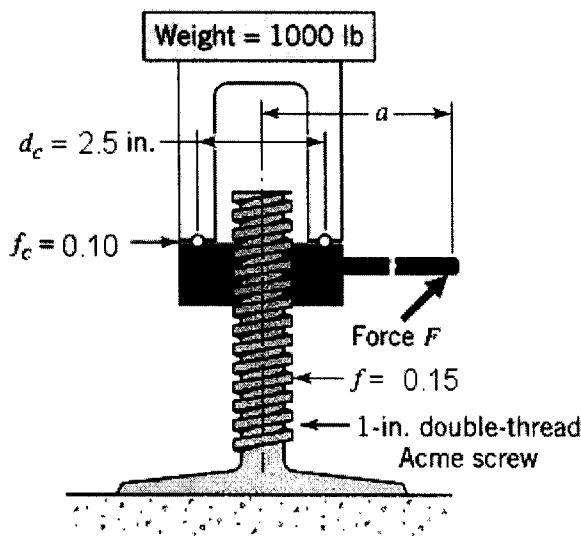

Figure 2
2.2 In Figure 2, a screw jack with a 1-in., single-thread ACME screw is used to raise a load of 1000 lb. A plain thrust collar of 2½ -in., mean diameter is used. Coefficients of running friction are estimated at 0.15 and 0.10 for f and f_c , respectively.